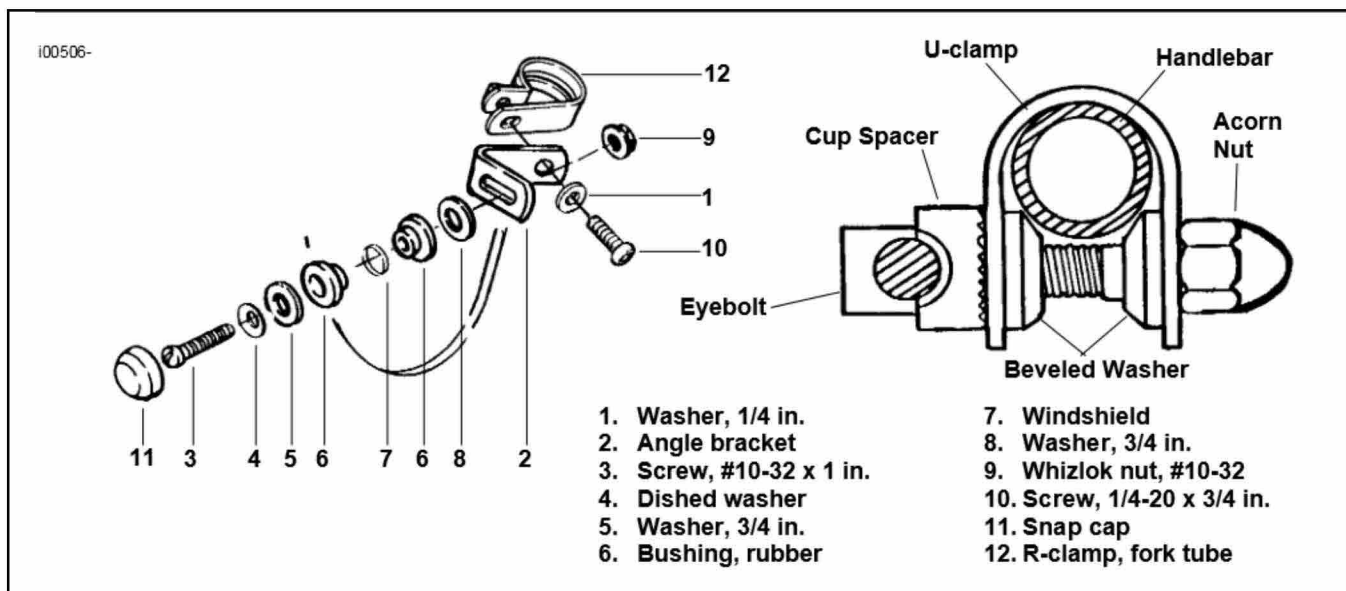

Figure 2. Windshield Brackets
4. See Figure 2. Attach lower angle brackets (2), left and right, to windshield (7) in the following order (front to rear): #10-32 x 1 in. screw (3), dished washer (4), 3/4 in. washer (5), rubber bushing (6), windshield (7), rubber bushing (6), 3/4 in. washer (8), angle bracket (2) and #10-32 Whizlok nut (9). Do not fully tighten nut.
8. See Figure 2. Place fork tube clamp (12) on each fork leg. Position the clamp flat side to the outside, pointing forward. Squeeze the clamp tight on the forks.
9. With screws (10) from kit, bolt angle brackets (2) to the fork clamps (12).
10. Align windshield (7) in desired position. Be sure it is centered, left to right.
11. Tighten hardware in the following sequence: eyebolts, #10-32 x 1 in. screw (3) (just until snug), and 1/4 in. angle bracket screw (10).
12. Install snap caps (11) over #10-32 x 1 in. screws (3).